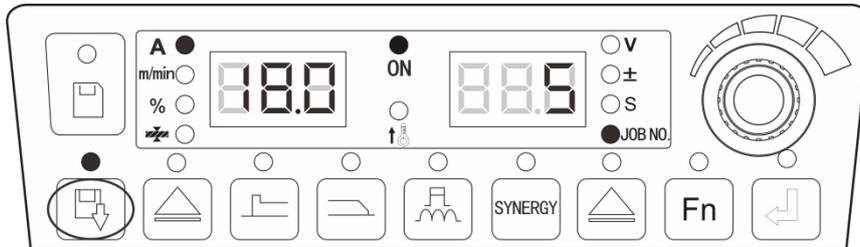

Fig. 3-13 Call setting interface
2. Select the **Channel number** (0~49) to be called with the panel knob, and press the "Enter" key to confirm, as shown in Fig. 3-13.